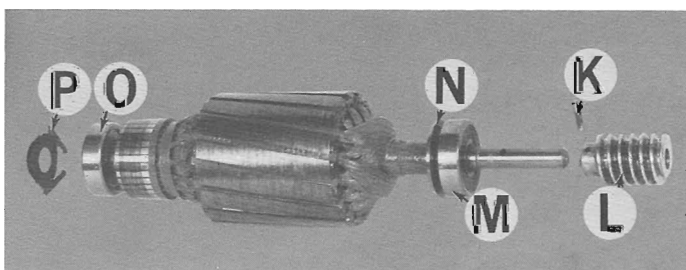

Figure 95 — Rotor Shaft and Components
4. Remove rotor shaft, Figure 95, from power feed housing.
5. Remove spring pin "K", Figure 95, to remove worm gear "L".
11. **When reassembling:** If motor cap has been removed, tuck wires in cap away from armature to prevent wires from rubbing on armature and shorting out. Grease worm wheel "S", Figure 97, with Houghton Cosmolube #2. Note position of wave washer "P", Figure 95. Permatex seal power feed housing to apron cover. Assemble motor brushes last and fill apron with oil as described under apron lubrication, Page 31.